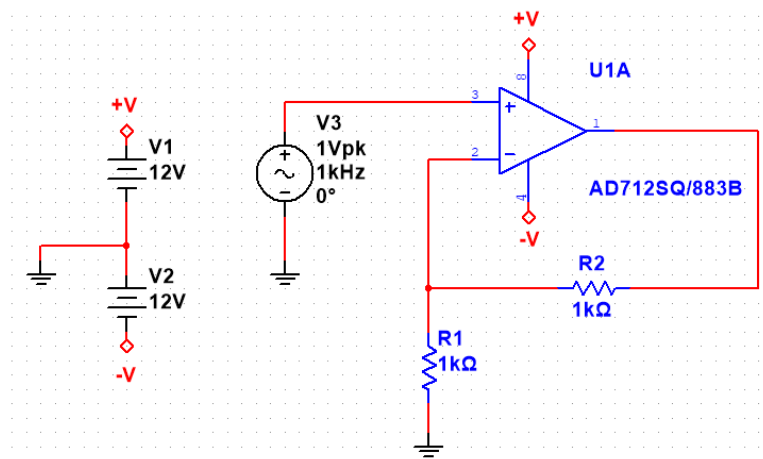

Figure 12. Non-inverting amplifier.
5. Connect the components by wires as in Figure 12. Adjust the position of components if necessary.